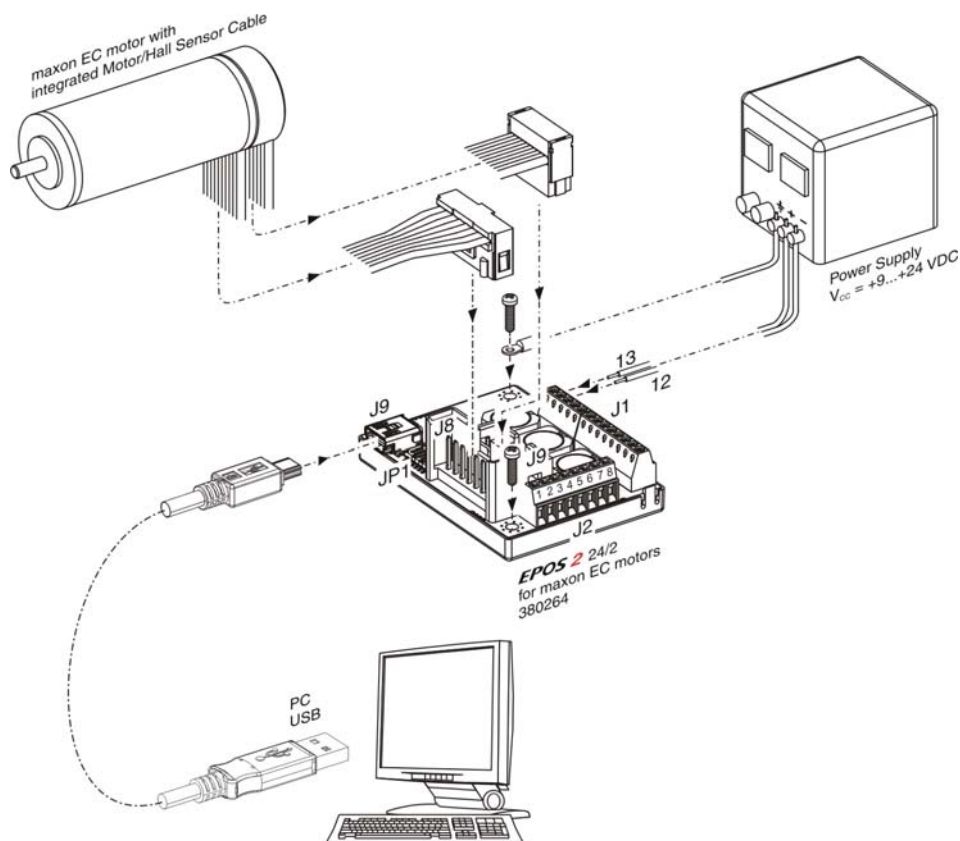

Figure 3-3 Minimum Wiring: maxon EC motor (integrated Motor/Hall Sensor Cable)
- 2) Connect maxon cable assemblies (→ Table 3-5 and Figure 3-3).